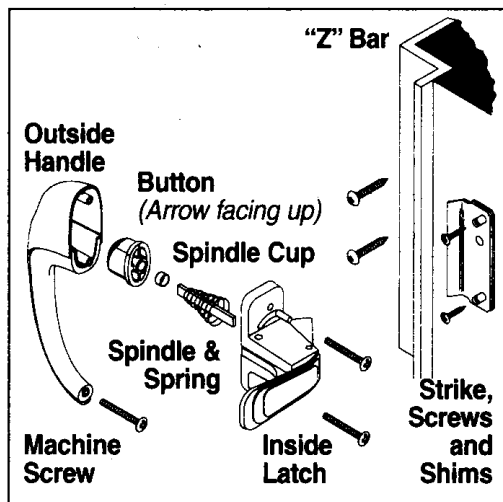

FIGURE 3
Step 2 - Assemble outside handle with button (arrow facing up), spindle cup, spindle, and spring. Guide this assembly through installation holes from outside of door. See Figure 3.